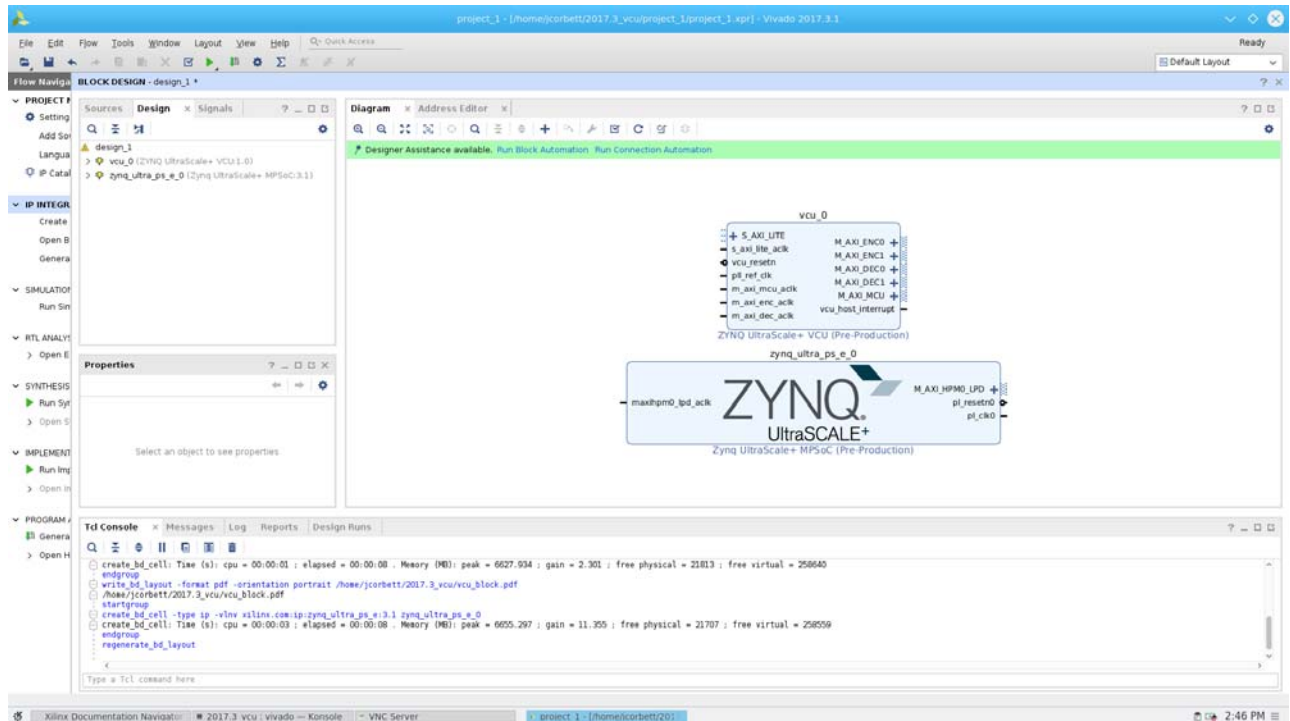

Figure 10-7: Zynq UltraScale+ MPSoC
9. Add Zynq UltraScale+ MPSoC IP to the block design as shown in Figure 10-7.